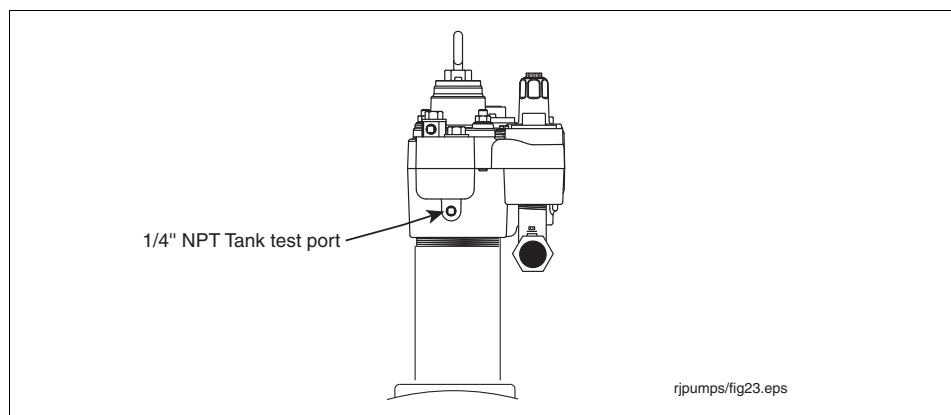

Figure 44. Tank test port on manifold
2. Remove and save the 1/4 " NPT tank test port plug and attach tank testing equipment (see Figure 44).